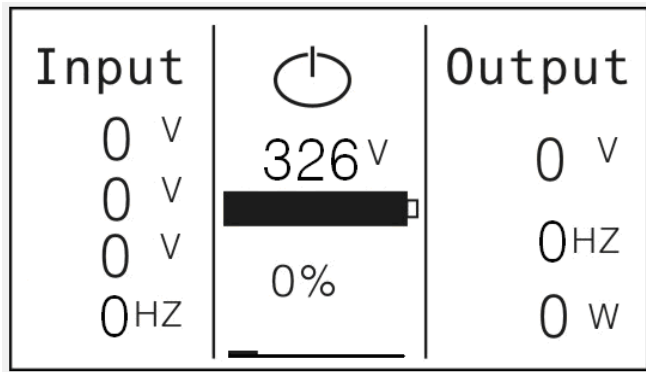

Fig. 4-6
- 2) When being powered off, the UPS will turn into Standby mode (Fig. 4-6). Finally not any display is shown on the display panel and no voltage is available from the UPS output.